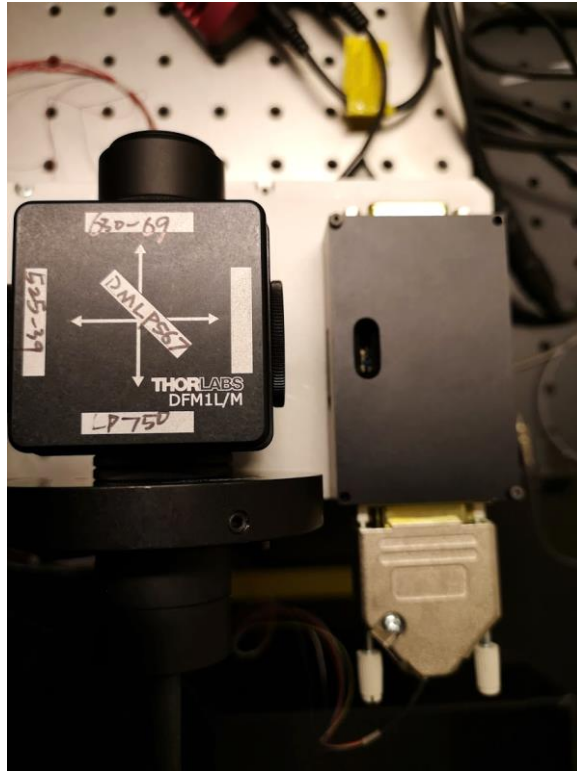

Figure 20: Placement of controlling module next to the detection module.
- Step70.** Mount the connector socket (item 48) into the backshell (item 47).
- Step71.** Attach 8 BNC cables (item 95) for Signal-Input to the DSUB15.
- Step72.** Repeat Step70 for output side, but merging the 6 single wire cables (item 50) that will connect to the miniscope
- Step73.** Add a 6-pin connector for MEMS (item 49) at the other end of the gathered wires of Step67.
- Step74.** Close the control box with lid (item 29).
- Step75.** Mount controlling module next to the detection module, on top of coupling box lid as shown in Fig.20 using a M4 capscrew.